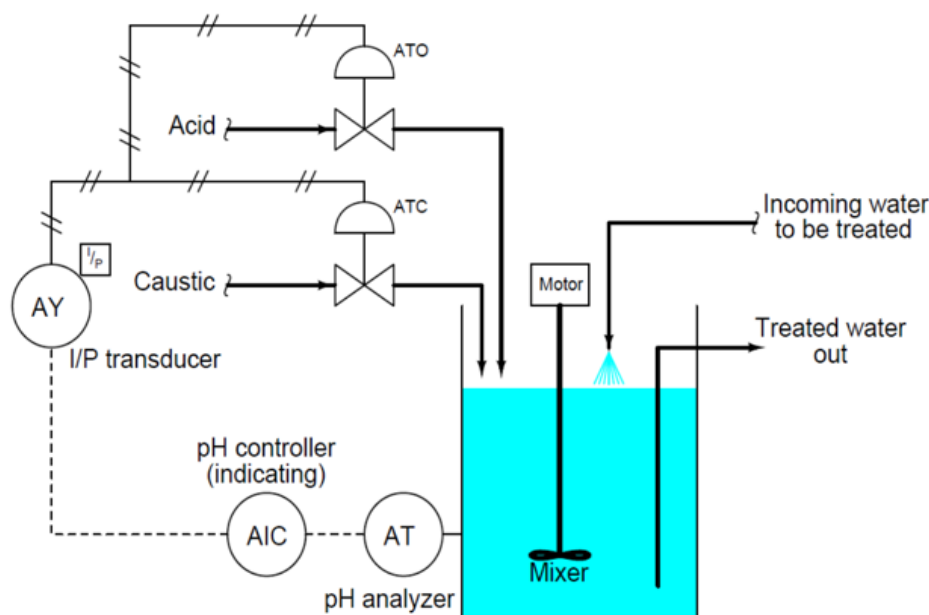

Fig.1 P & ID of a pH neutralisation control system with split-ranged control valve.
- (A) 150 ft
- (B) Pressure
- (C) Flow of liquid to the tank
- (D) Level
- (b) The process and instrumentation diagram (P & ID, Fig.1) with *split-ranged control valves* show a practical example of split-ranging with reagent feed for pH neutralisation process, where the pH value of process liquid is brought closer to neutral by the addition of either acid or caustic reagent liquids. The split-ranged control valves call for a form of valve sequencing where either the acid valve or caustic valve is fully closed or opened at a certain percentage of the controller output (direct action) signal.
- (i) Using this P & ID (Fig.1) and the given principle of the split-ranged control valves, explain clearly how such a control system would work to neutralised the process liquid's pH. **(8 marks)**
- (ii) State the pneumatic signal output range by the I/P transducer (AY) at which both reagent control valves operate. **(1 mark)**